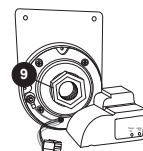
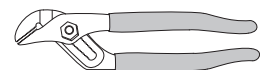

Figure 5
Figure 6
5. Remove the quartz seal compression nut (9) by turning it **counterclockwise**, Figure 5. Use a pair of channel-lock pliers if needed, Figure 6.
6. Now you are ready to clean or replace the quartz tube (8). For cleaning the quartz tube, follow steps 7 and 8 then proceed from step 9. For replacing quartz tube, skip steps 7 and 8 and proceed from step 9.